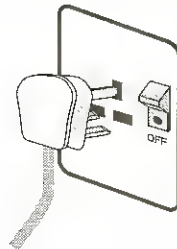

Figure 2-3: Remove power cord from wall outlet.
2. Switch off your system and all peripheral devices. Unplug the power cord from the wall outlet as depicted in Figure 2-3.